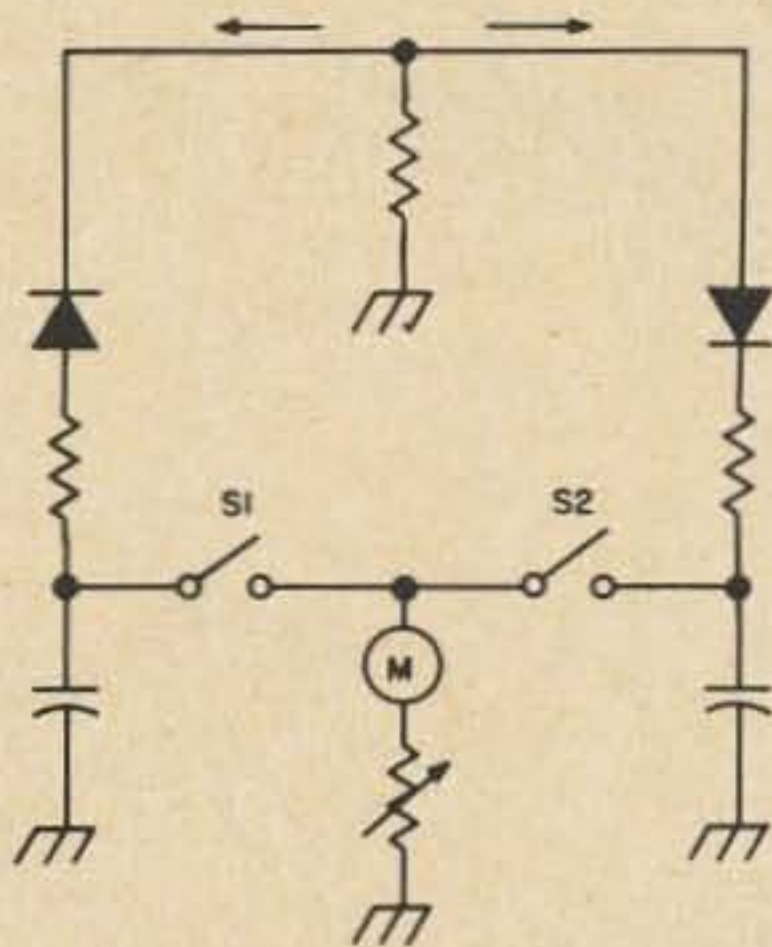

Fig. 2. Reversed diodes can be switched in the circuit to indicate incident, reflected, or "difference."
Fig. 2. Besides the usual in-phase (0°) or out-of-phase (180°) current feed systems that appear in antenna designs, a very wide selection of radiation patterns can be obtained by different phasings of two antennas. The patterns shown are the horizontal radiation patterns. In all cases, the amplitude of the currents to both antennas is equal.
The spacings and phasings shown in Figure 1 are conventional ones well known by any amateur acquainted with driven, phased antenna arrays. Many amateurs, however, falsely think that there are only a small number of spacing and phasing combinations that provide useful directional patterns for a driven array with two antenna elements (e.g., $\frac{1}{4}\lambda$ or $\frac{1}{2}\lambda$ spacing, in-phase (0°) or out-of-phase (180°) feed, etc.). Actually, there are a great many more combinations that can be used, as illustrated in Fig. 2.
From all the combinations shown, it should certainly be possible to develop a useful directive pattern no matter how restricted one may be in the physical placement of the antennas. If the spacing and feedline lengths are chosen correctly, as illustrated in one case by Fig. 1, an effective directional pattern will be obtained without changing transmission line lengths or one or more bands harmonically related to the band for which the antenna array is designed. If there is any difficulty in interpreting Fig. 2, one should first locate the combinations illustrated by Figs. 1(A) and 1(B).
The use of a simple secondary antenna can increase the gain in almost any desired direction by usually 3 dB or more when used with a trap vertical. There is no need to limit oneself to conventional antenna element spacings or phasings. One should carefully study Fig. 2 to decide which spacing and phasing suits a given situation. Then, one can proceed with usage of the secondary antenna in the manner shown for the specific construction example shown in this article. . . . W2EEY/1 ■